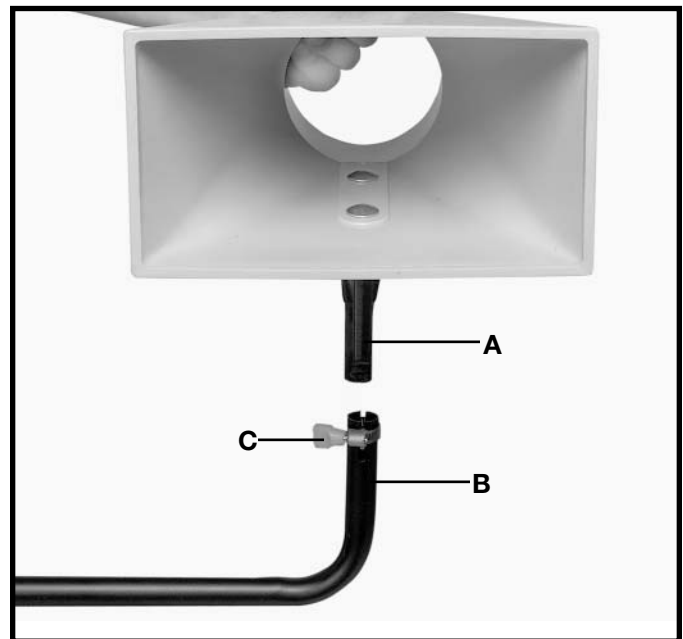

Fig. 14
8. Place intake funnel assembly (A), onto lower support tube (B) Fig. 14, and secure with tube clamp (C).